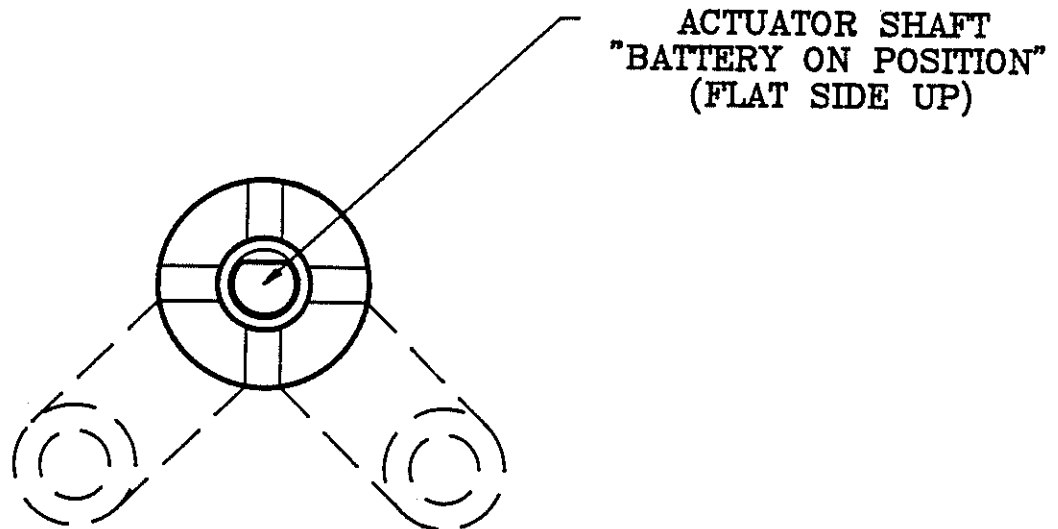

FIGURE 2.2
- 1) Remove the cotter pin which secures the coupler to the actuator shaft. Rotate the actuator shaft 180 degrees so the flat side is facing up. (This will activate a micro switch which will energize the battery.) (See Figure 2.2) Carefully install the split pin in place of the cotter pin.